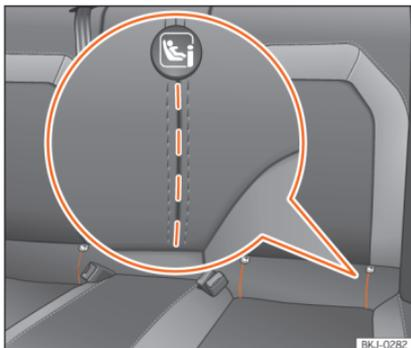

Fig. 24 Rear seat: slots die cut to access the ISOFIX / i-Size securing rings.
backrest and the seat cushioning »» **Fig. 24**. The Top Tether rings are located on the rear part of the rear seat backrests (behind the backrest or in the luggage compartment) »» page 34.
- Open the cut-out section behind the marked grooves to access the retaining rings » **Fig. 24.**